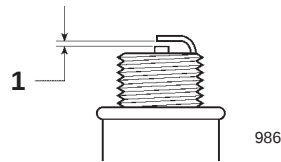

Figure 21
4. Set the gap on the new plug to 0.020 in. (0.50 mm) (Fig. 21).